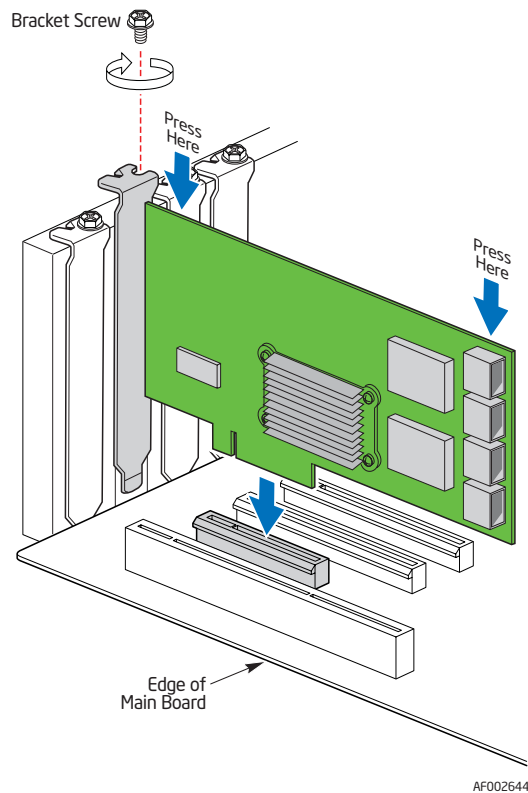

Figure 1. Inserting the Intel® RAID Controller SRCASPH16I into a PCI Express* Slot
4. Press down gently but firmly to ensure that the card is properly seated in the slot, as shown in Figure 1. Secure the bracket to the computer chassis.